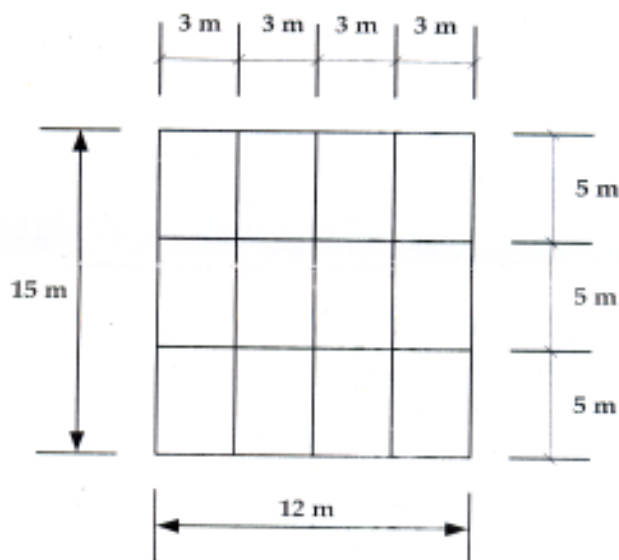

Fig. 3 (a)
3. a) Fig. 3 (a) shows the floor plan of a building. The floor is an RCC slab of thickness 120 mm. Design the primary and secondary beams. Consider the unit weight of the RCC slab as 25 kN/m^3 .